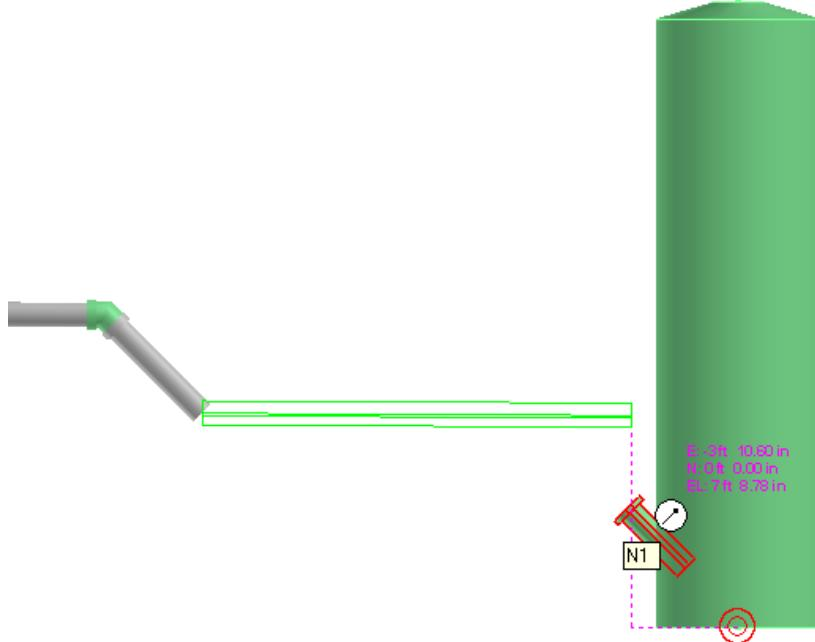

Figure 4. 16: Pipe Extended Until the Nozzle of the Catch Basin
28. The system will display a projection line that indicates the centerline of the piping nozzle. Locate the projection line displayed by the system until SmartSketch displays the point on curve indicator  and E glyphs. These glyphs indicate that you found the intersection point between the sloped pipe and the centerline of the pipe nozzle, as shown in Figure 4. 17.